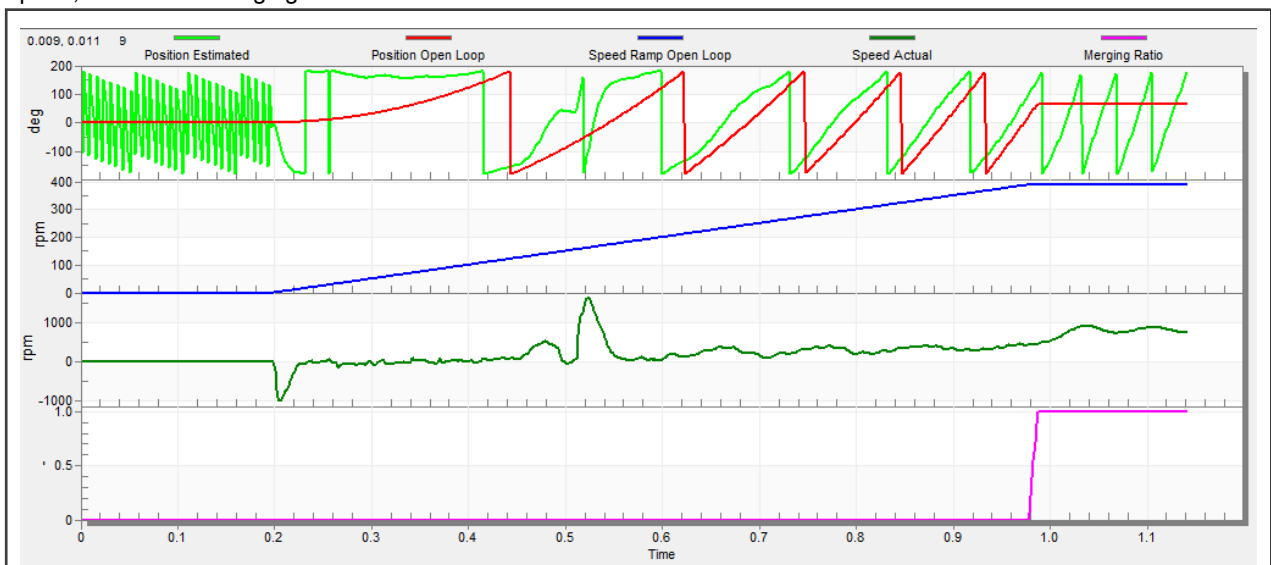

Figure 31. Motor startup
1. The start-up process can be tuned by a set of parameters located in the “Sensorless” tab. Two of them (ramp increment and current) are accessible in both tuning modes. The start-up tuning can be processed in all control modes besides the scalar control. Setting the optimal values results in a proper motor startup. An example start-up state of low-dynamic drives (fans, pumps) is shown in Figure 31.